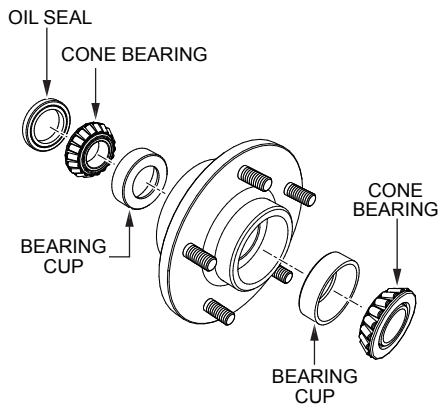

Figure 39. Wheel Hub and Bearings
1. After **every 3 months** of operation, remove the hub dust cap and inspect the wheel bearings (Figure 39). Once a year, or when required, disassemble the wheel hubs remove the old grease and repack the bearings forcing grease between rollers, cone and cage with a good grade of high speed wheel bearing grease (never use grease heavier than 265 A.S.T.M. penetration (“No. 2.”).
2. Fill the wheel hub (Figure 39) with grease to the inside diameter of the outer races and also fill the hub grease cap. Reassemble the hub and mount the wheel. Then tighten the adjusting nut, at the same time turn the wheel in both directions, until there is a slight bind to be sure all the bearing surfaces are in contact.